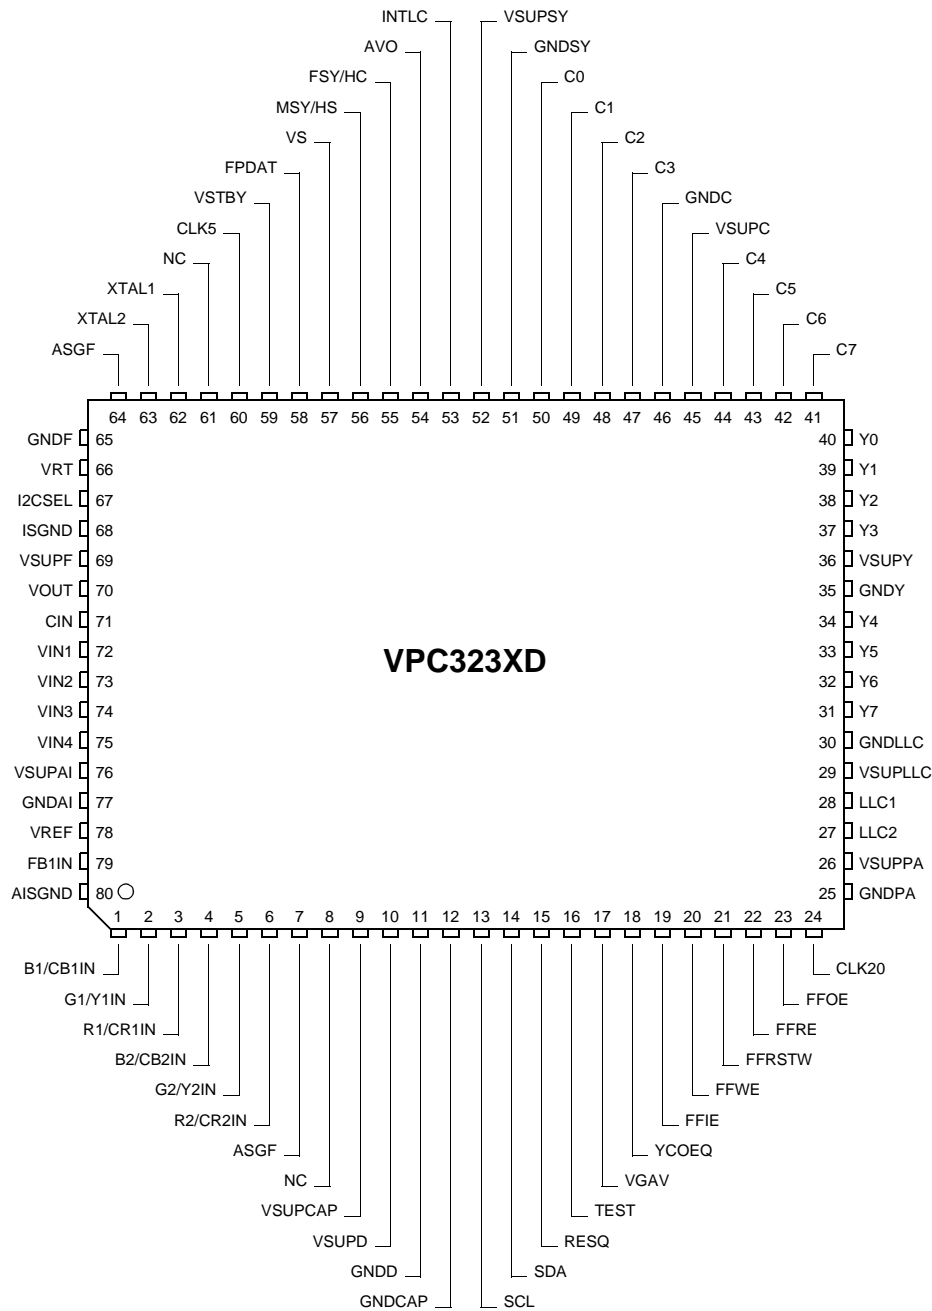

Fig. 4–2: 80-pin PQFP package
**Pins 72-75 – Video Input 1–4 (Fig. 4–11)**
**Pin 78 – Reference Voltage Top VREF (Fig. 4–8)**
**Pin 79 – Fast Blank Input FB1IN (Fig. 4–10)**
**Pin 80 – Signal GND for Analog Component Inputs AISGND (Fig. 4–10)**